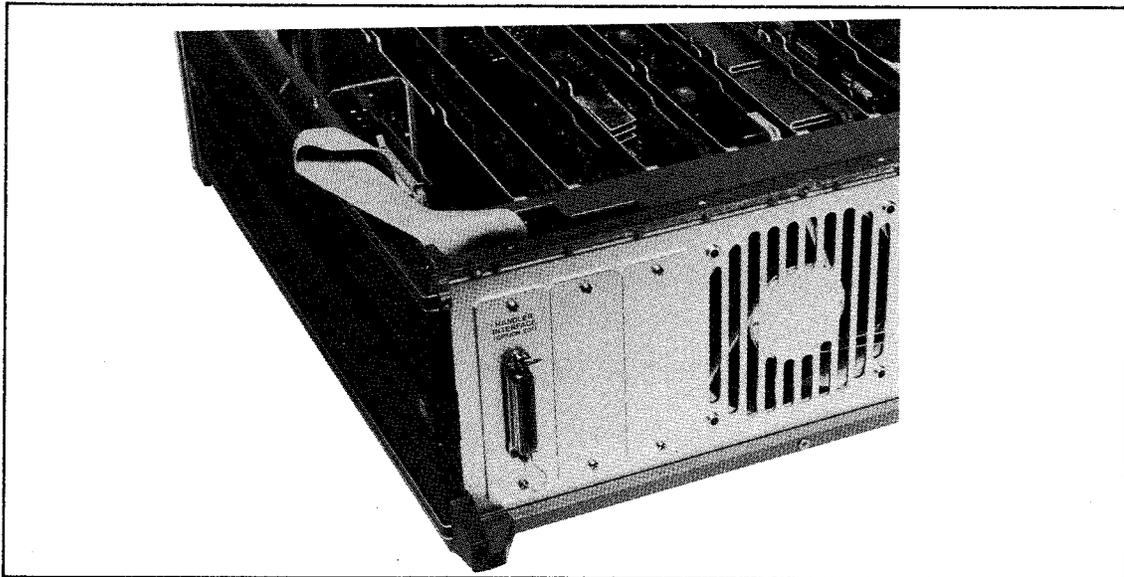

Figure 2-8. Option 201 Set Up
4. Remove the left most blank panel on the rear panel, and install the I/F panel in place of the blank panel as shown in Figure 2-8.
5. Connect the female connector of the I/F cable assembly to the male connector (A30J1) on the Handler Interface board, as shown in Figure 2-8.